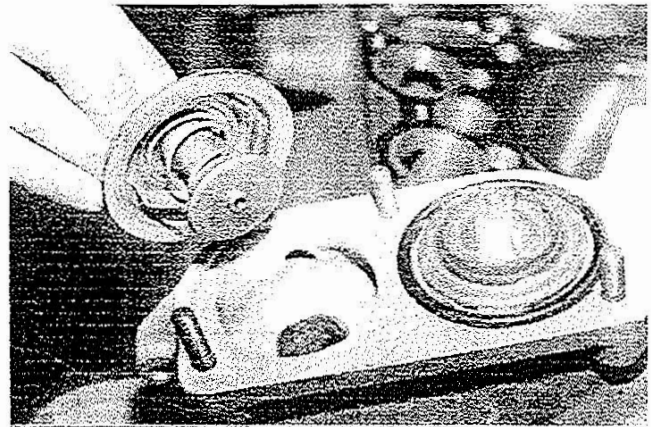

Fig.3.24
b) Normally thermostat does not require regular maintenance. Its safe operation shall be checked if sudden deviations from the prescribed coolant temperature should occur. Visual inspection will reveal whether or not the element rests in its seat i.e. whether or not it closes tightly (Fig.3-24).